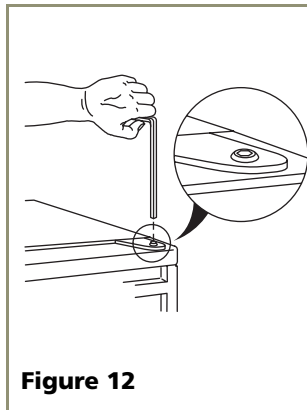

Figure 12
1. Remove top hinge screw pin (7/64" Allen wrench or Phillips screwdriver, depending on your unit's construction, see **Figure 12**). Remove door by tilting forward and lifting off bottom hinge pin.